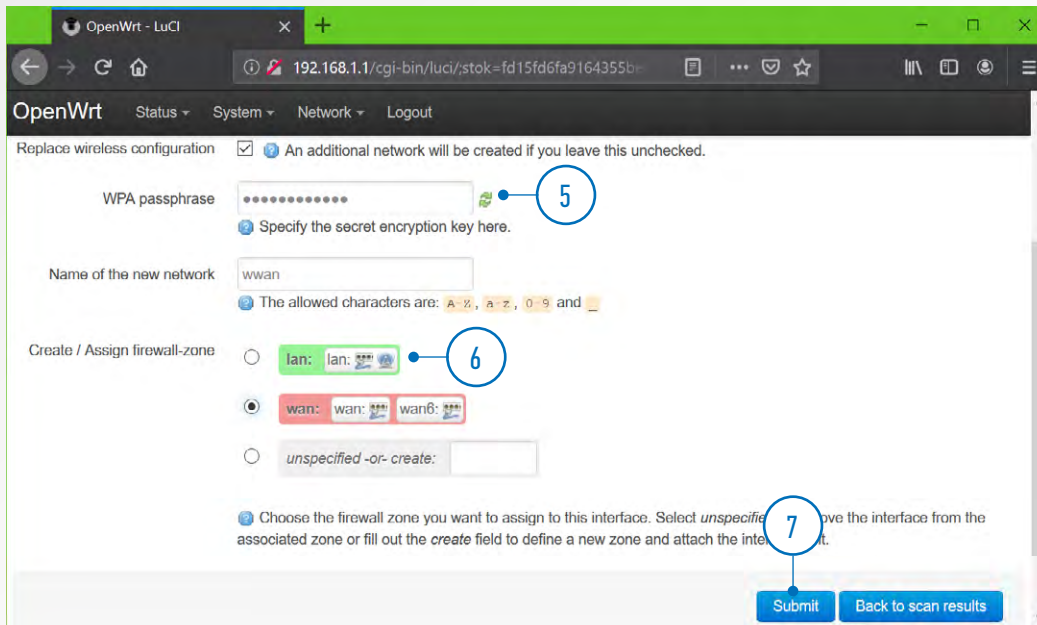

FIGURE 9 WI-FI CLIENT SETTINGS
5. Input the network's password in the **WPA passphrase** field (Fig.9 Pos.5)
6. Check the **LAN** flag in **Create/Assign firewall-zone** selector (Fig.9 Pos.6)
7. Click the **Submit** button (Fig.9 Pos.7)